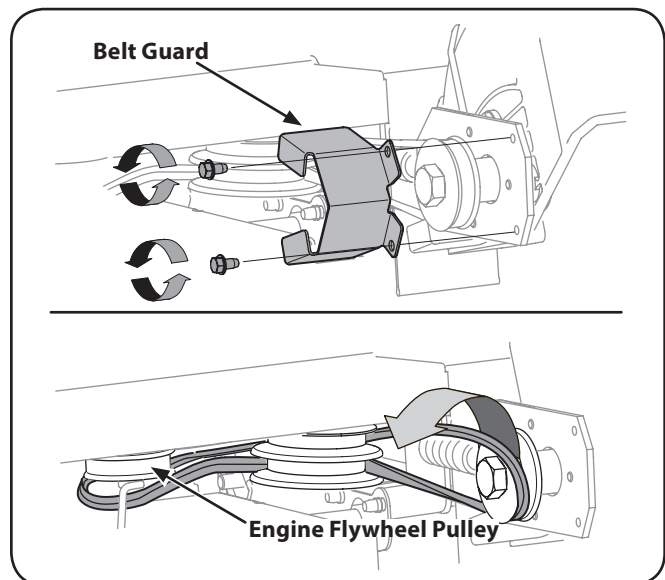

Figure 7-2
3. Remove the spindle sheaves belt guard by removing the two self-tapping screws which secure it to the blade plate assembly. See Figure 7-2.
4. Carefully remove the belt from off of the pulleys, again making sure to note the orientation of the belt. Discard the belt. See Figure 7-2.
NOTE: Make certain that the “V” side of the belt is seated into the top pulley and the flat side of the belt is seated into the bottom pulley. See Figure 7-2.